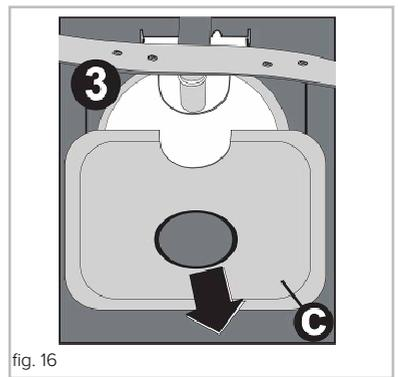

fig. 16
4. Remove the base filter from the dishwasher compartment (figure 16).